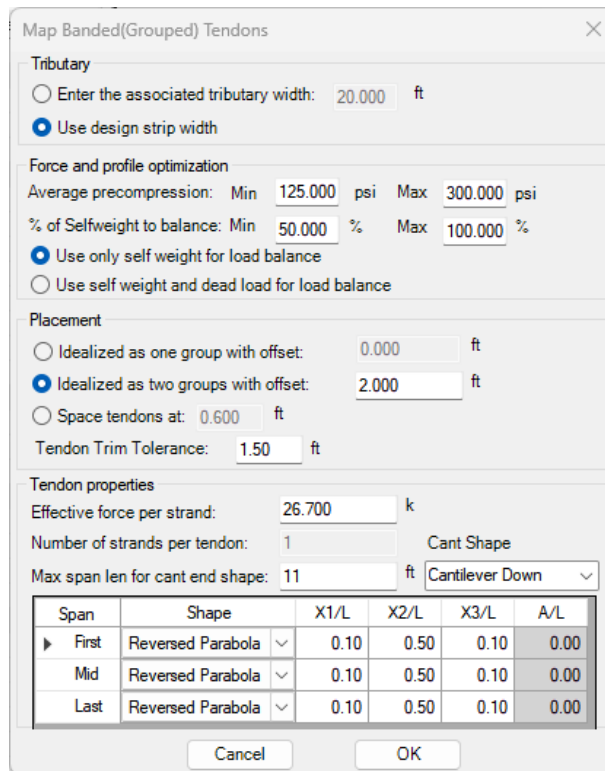

FIGURE 9-38
- The rest of the values can remain as default. The window should now look like **FIGURE 9-38.**